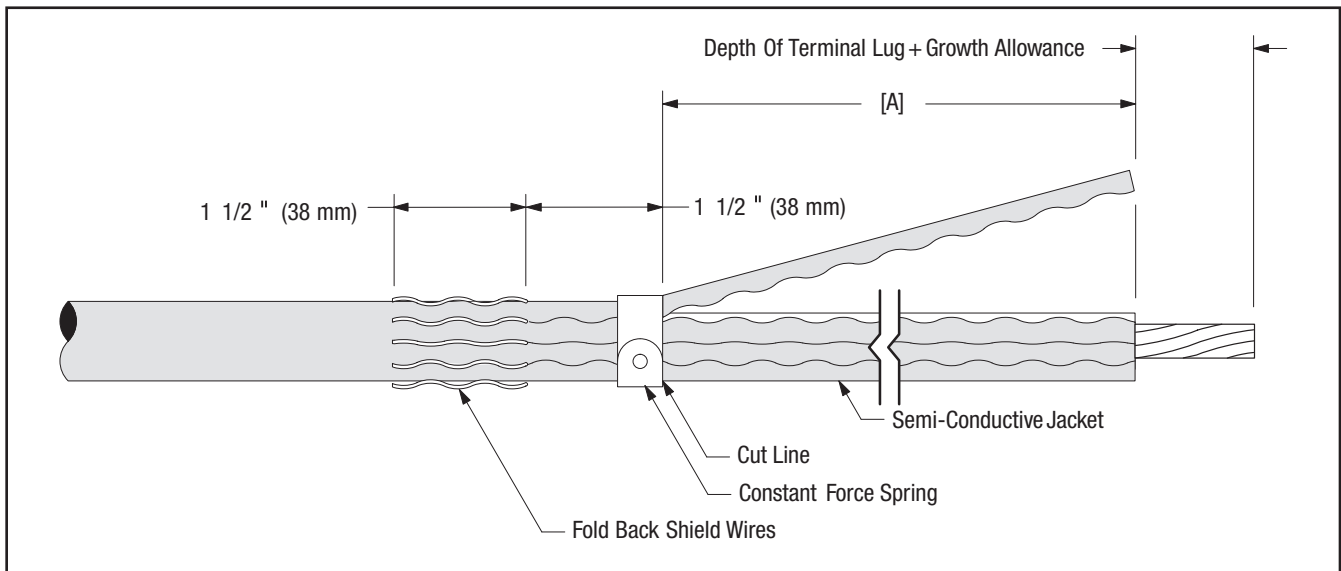

Figure 18
12.5 Remove semi-conductive jacket to dimension shown in Figure 18.
NOTE: To ease jacket removal, install constant force spring as shown in Figure 18 and ring cut 80% through jacket. Remove jacket sections by pulling against constant force spring. **DO NOT BELL SEMI-CON JACKET.** Remove constant force spring.